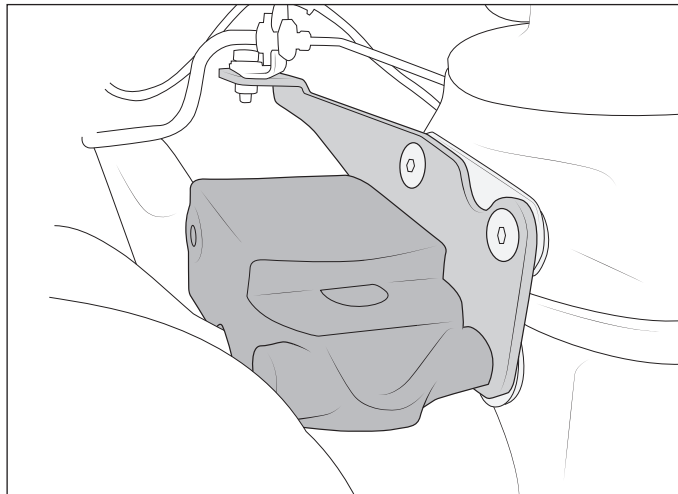

Figure 26
- B. Place the bump stop/bracket assemblies on the axle and start the bolts into the coil spring mounts. Secure with M10 X 25 countersink bolts and lightly snug to align (fig. 26).